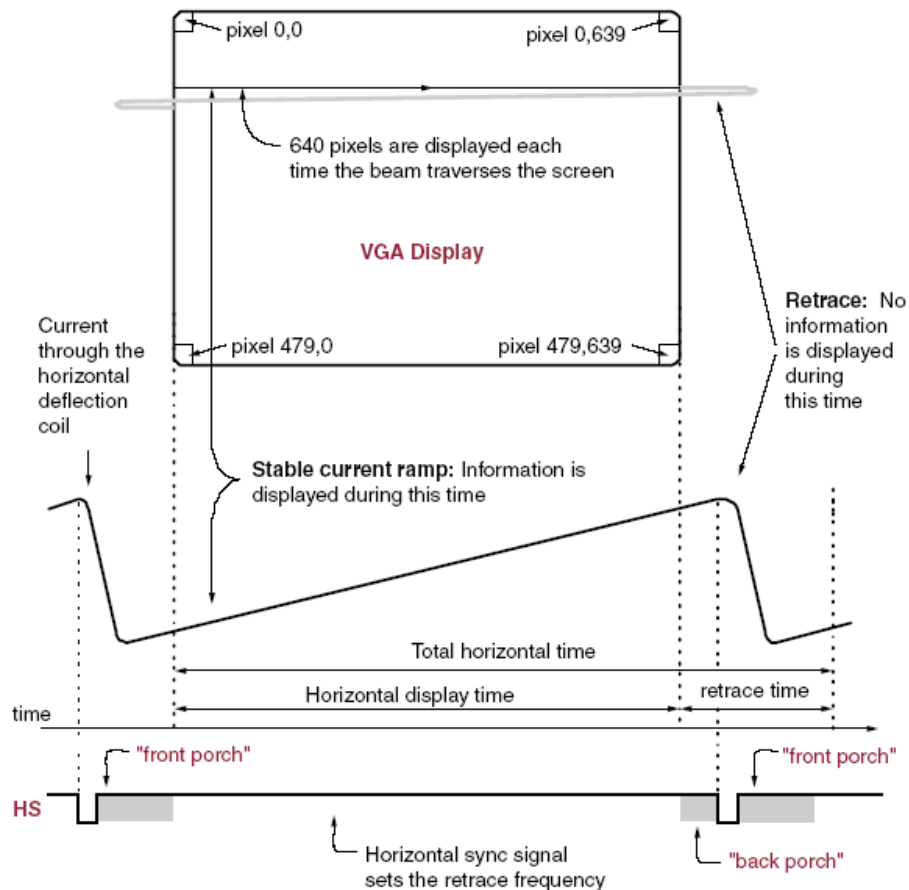

Figure 5: CRT Display Timing Example
Within a CRT display, current waveforms pass through the coils to produce magnetic fields that deflect electron beams to transverse the display surface in a *raster* pattern, horizontally from left to right and vertically from top to bottom. As shown in Figure 5, information is only displayed when the beam is moving in the *forward* direction—left to right and top to bottom—and not during the time the beam returns back to the left or top edge of the display. Much of the potential display time is therefore lost in *blanking* periods when the beam is reset and stabilized to begin a new horizontal or vertical display pass.
As shown in Figure 5, the VGA controller generates the horizontal sync (HS) and vertical sync (VS) timing signals and coordinates the delivery of video data on each pixel clock.